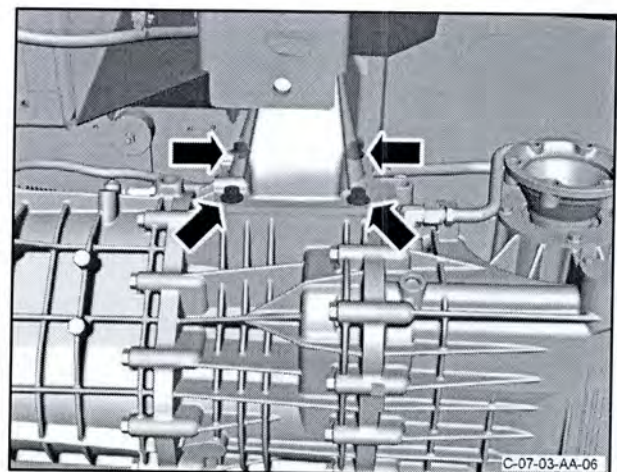

Figure 50
99. Put the left mount bracket, with the hydramount attached, in position (refer to Figure 50).